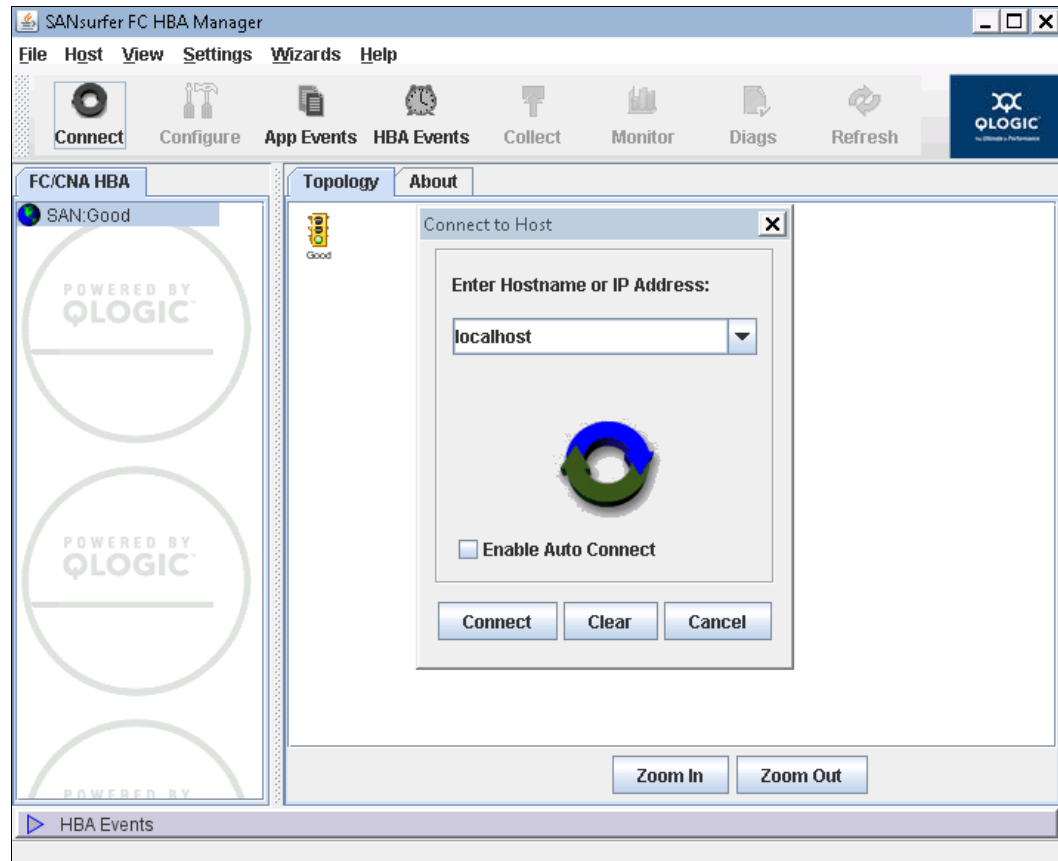

Figure 7-52 Logging in to SANsurfer FC HBA Manager
2. In the Connect to Host dialog box, click **Connect** to accept the default setting of **localhost** (Figure 7-52).